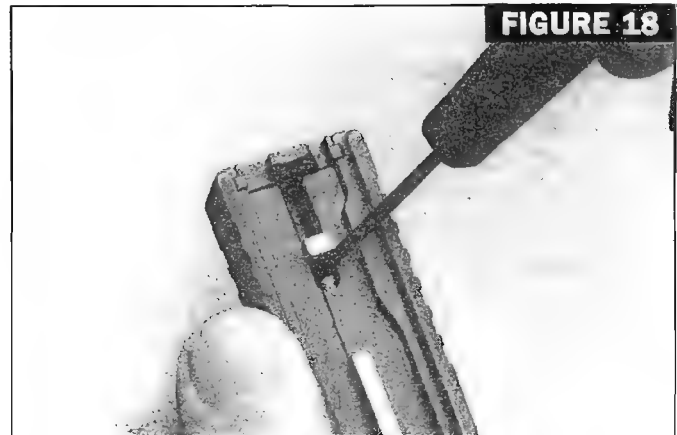

FIGURE 18
- To aid in the removal of the slide cover plate, place the muzzle end of the slide on a smooth, flat surface such as a table. Keep the slide in an upright position while applying firm downward pressure on the slide. With your free hand, use a pin punch to push the spacer sleeve towards the muzzle (Figs. 18 & 19).